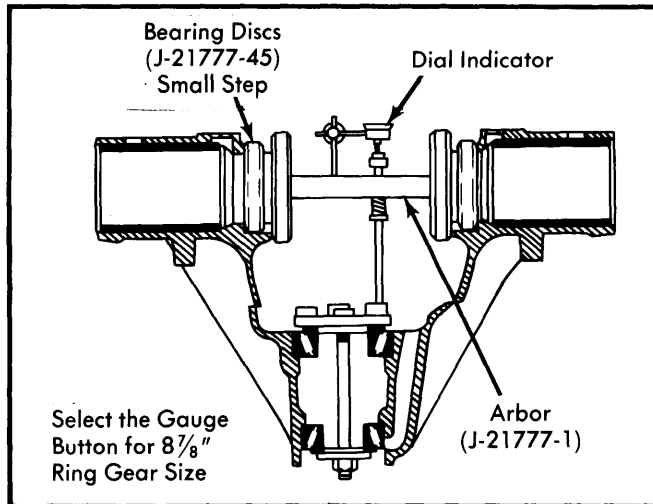

Fig. 9 Arbor & Plunger Installation
5) Install bearing discs (J-21777-45) on arbor (J-21777-1) with small step on discs facing outward. Place arbor and plunger assembly into gear case making sure bearing discs are seated properly in gear case bearing housing (refer to Fig. 9).